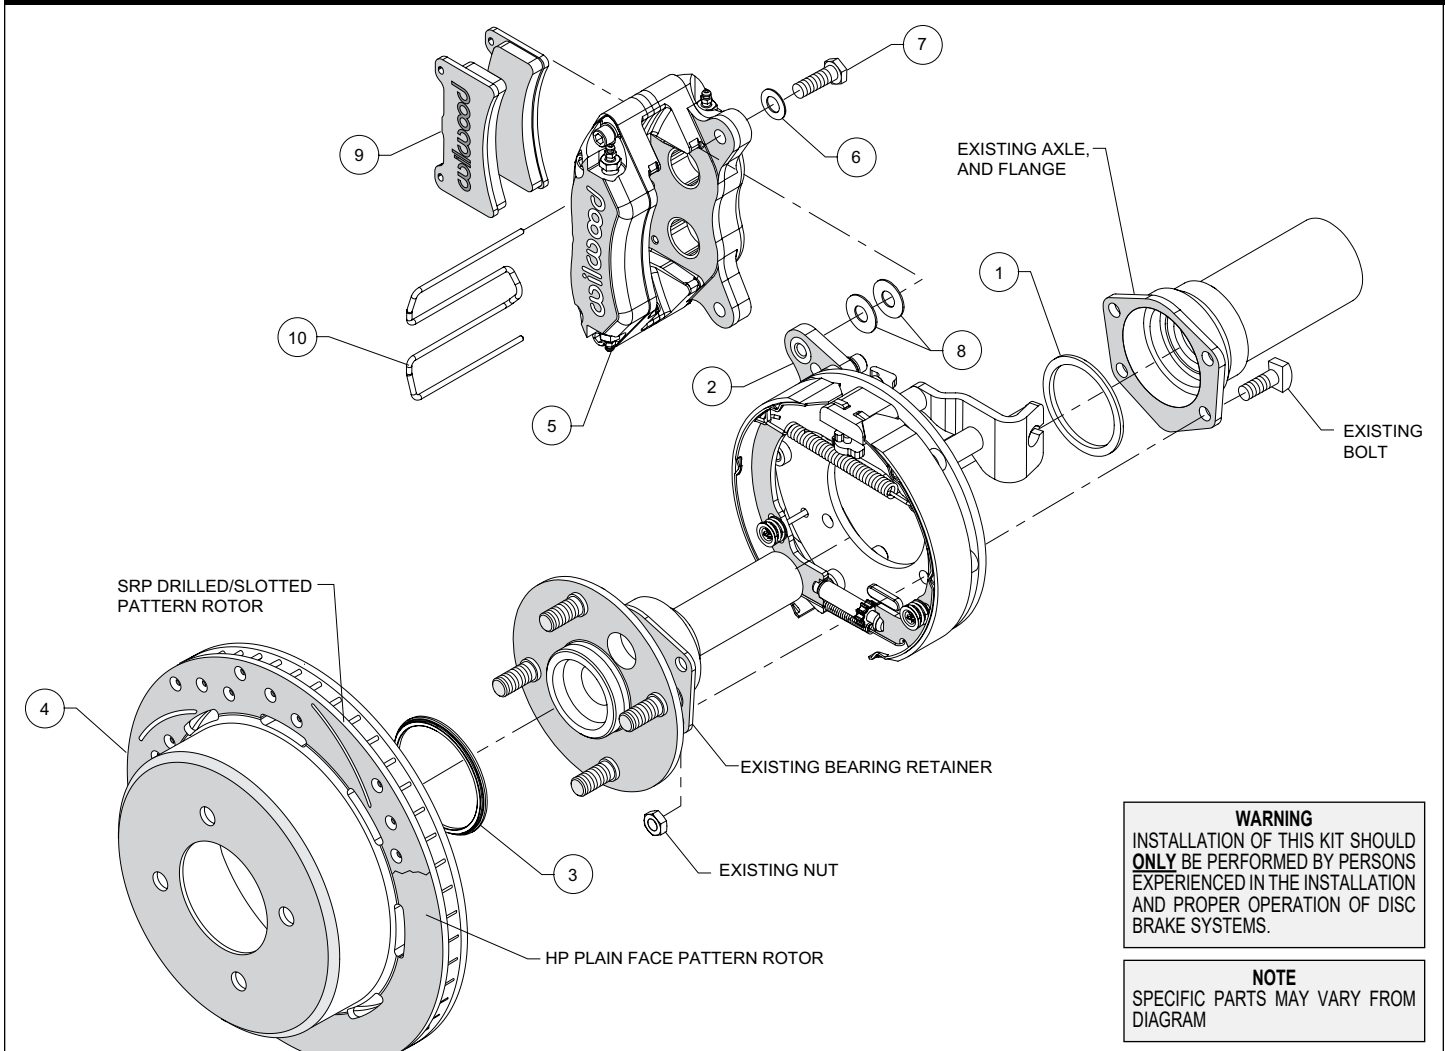
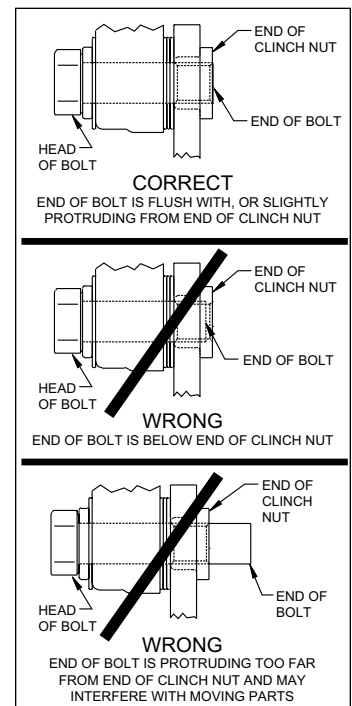

Figure 1. Typical Installation Configuration
Figure 4. Clinch Nut Engagement Diagram
NOTE: Numbers in parenthesis refer to the parts list and Figure 1 on the preceding pages. **CAUTION:** All mounting bolts must fully engage clinch nuts. Be sure to check that all bolts are either flush or protruding through flanged side of clinch nut after shimming, Figure 4.
- With the bearing retainer in place, slide the caliper mounting bracket assembly (2) onto the axle as shown in Figure 1 and Photo 1. Install axle shim (1) over axle shaft with bearing chamfer facing toward the axle housing, as shown in Photo 2.
- Slide the axle and parking brake assembly into the axle housing ensuring that the backing plate is flush with the axle housing flange and the bearing retainer is flush with the backing plate. Secure retainer and bracket assembly to the axle housing flange using the Original Equipment Manufacturer (OEM) bolts and nuts, Figure 1. Apply red *Loctite*® 271 to the OEM bolt threads and torque to OEM specifications.
- Slide the rotor registration adapter (3) onto the axle register on the axle flange with the smaller O.D. facing toward the rotor/hat (4), Photo 3. Align the hole pattern in the rotor/hat with the stud pattern on the axle flange and slide into place, Figure 1 and Photo 4. **NOTE:** The rotor/hat must fit flush against the axle flange or excessive rotor run out may result. Install three lug nuts (finger tight) to keep the rotor/hat assembly in place while continuing with the installation. **NOTE:** Some OEM and after market axles come with stud sizes larger than 0.50" diameter. Verify stud size and have a qualified machine shop drill the bolt circle of the hat/rotor to the correct stud size, if necessary.
•**NOTE:** Please reference the caution statement at the beginning of the assembly instructions. Mount the caliper (5) onto the caliper mounting bracket (2) using bolts (7) and washers (6), as shown in Figure 1. Initially place two .035" thick shims (8) on each bolt between the caliper and the bracket, Photo 5. Temporarily tighten the mounting bolts and view the rotor (4) through the top opening of the caliper. The rotor should be centered in the caliper, Photo 6. If not, adjust by adding or subtracting shims between the bracket and the caliper. Always use the same amount of shims on each of the two mounting bolts. **NOTE:** The end of each bolt must be flush with or slightly protruding from the head of the clinch nut, as shown in Figure 4. If necessary place spare shims between washer (6) and caliper mounting ear to achieve the proper clinch nut engagement. Once the caliper alignment and clinch nut engagement are correct, remove the bolts one at a time, apply red *Loctite*® 271 to bolt threads, and torque to 40 ft-lb.
•Install the disc brake pads (9) into the caliper, with the friction material facing the rotor (4), and secure in place using pad clip retainer (10), Photo 7.
•**NOTE:** Clevis and cable kits which attach to the parking brake assembly are not included in the Wilwood parking brake kit. Wilwood offers a generic style parking brake cable kit, P/N 330-9371 for this application which can be ordered separately from your local Wilwood dealer or by calling Wilwood customer service at (805) 388-1188.
•Before final installation of the wheel, install three lug nuts, remove the rubber grommet in the bracket kit assembly (2) and adjust the parking brake shoes outward (using a drum shoe adjustment tool available at your local auto parts store) while spinning the rotor/hat (4) until a slight drag is felt against the hat/drum. Replace the rubber grommet when finished.